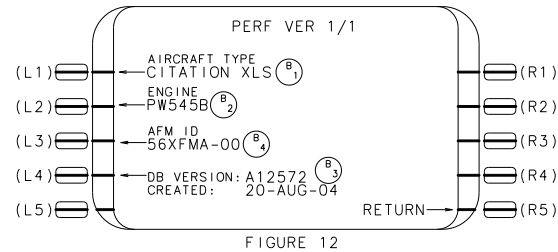

FIGURE 12
- THE PERF VER PAGE WILL APPEAR (REF FIGURE 12). VERIFY THE DATA ON THE PERF PAGE IS CORRECT.